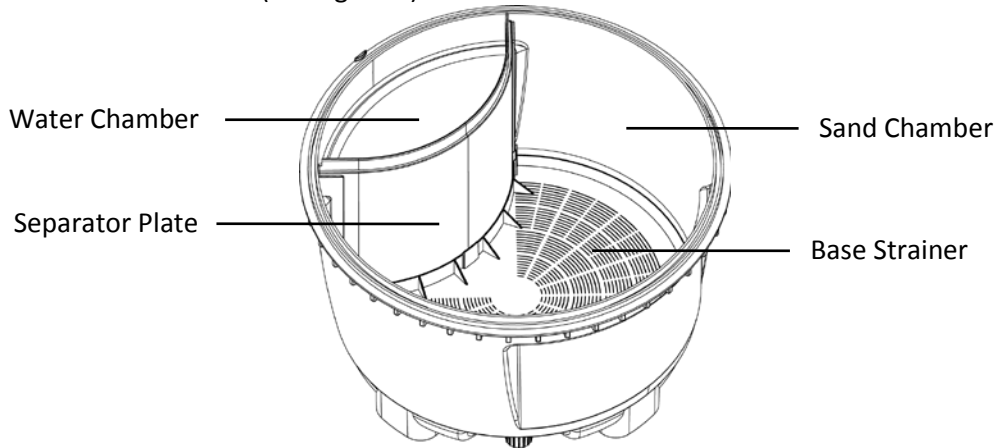

Figure 2
2. Fill sand chamber with sand (See figure 2)